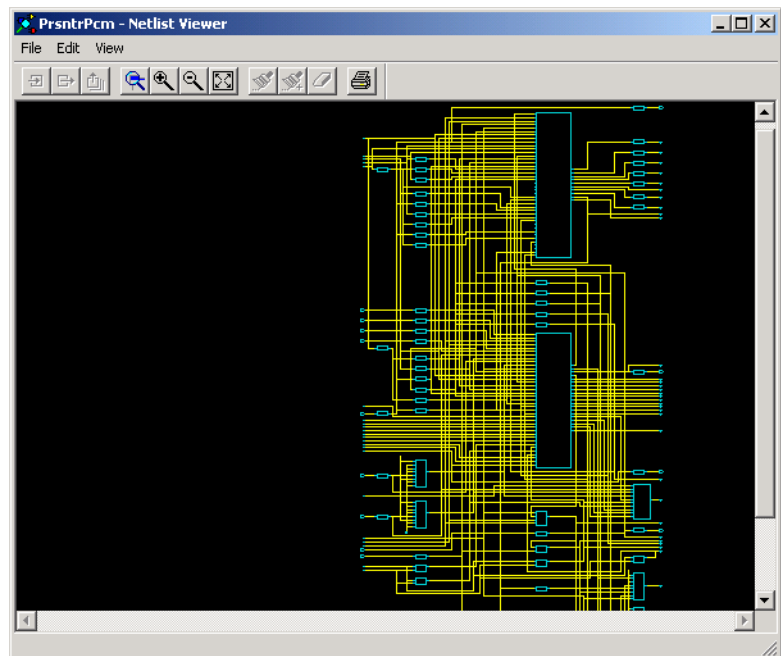

Figure 2-1. Netlist Viewer Opens
- 1. Start Netlist Viewer.** Click *Netlist Viewer* in the Design Flow window. The Netlist Viewer starts and displays your netlist as shown in Figure 2-1.